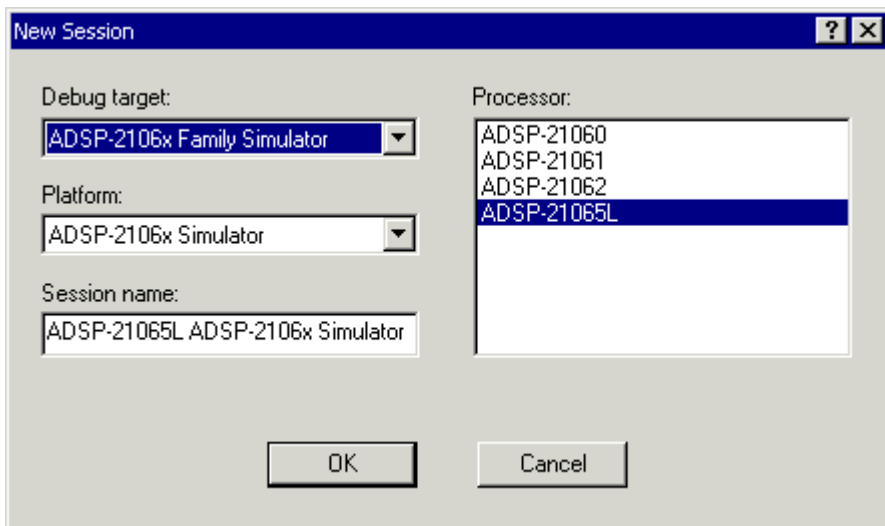

Figure 3-4. New Session Dialog Box
1. From the **Session List** dialog box, click **New Session** to open the **New Session** dialog box, shown in Figure 3-4.